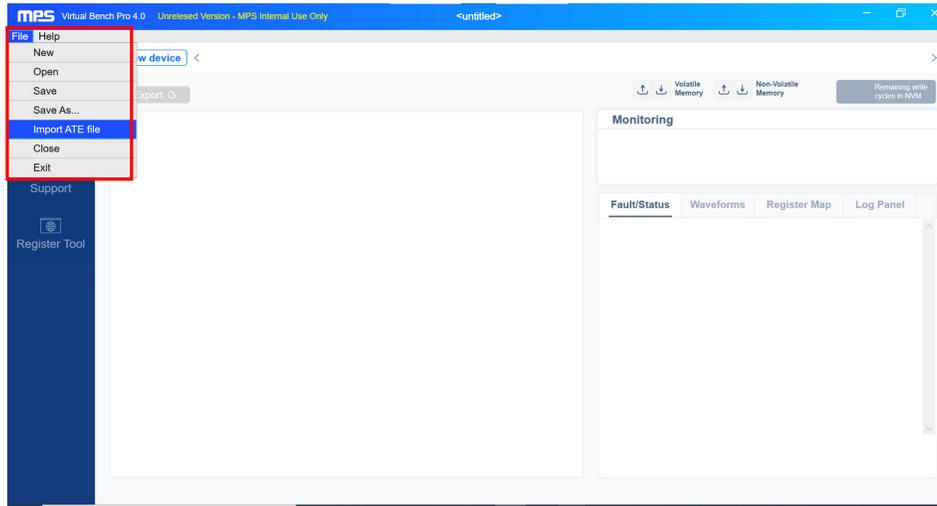

Figure 10: Import ATE File in Virtual Bench
- e. It can also configure the OTP memory through “Import ATE file” under File (see Figure 10). ⁽²⁾ It provides an easy way to change the register value through the configuration file.